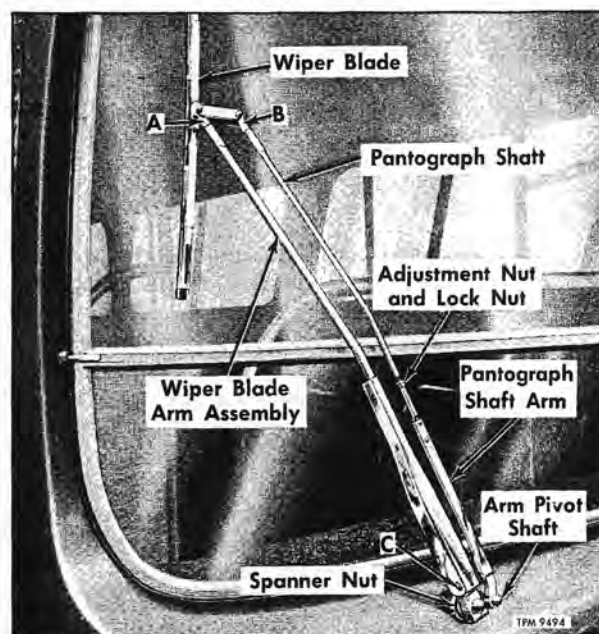

Figure 16—Wiper Arm and Blade Installed (Optional)
Special wiper arm arrangement consists of an arm and a pantograph shaft as shown in figure 16. Blade angle is also adjustable by lengthening or shortening the pantograph shaft.
Repair kits are available for arm tip and bushing assemblies "A" and "B," figure 16, and for the arm bushing and pivot pin assembly (C, fig. 16). See "SL" parts list for kit numbers.
#### ARM ARRANGEMENT WITH PANTOGRAPH SHAFT (Fig. 16)
Pantograph shaft length is adjustable to allow setting wiper blade angle. Each blade should travel across windshield in a position so that when the arm is at the end of its outward sweep, the wiper blade should be parallel with edge of windshield as shown in figure 16. If necessary, adjust angle of blade as follows:
1. Loosen lock nuts on pantograph shaft (fig. 16).